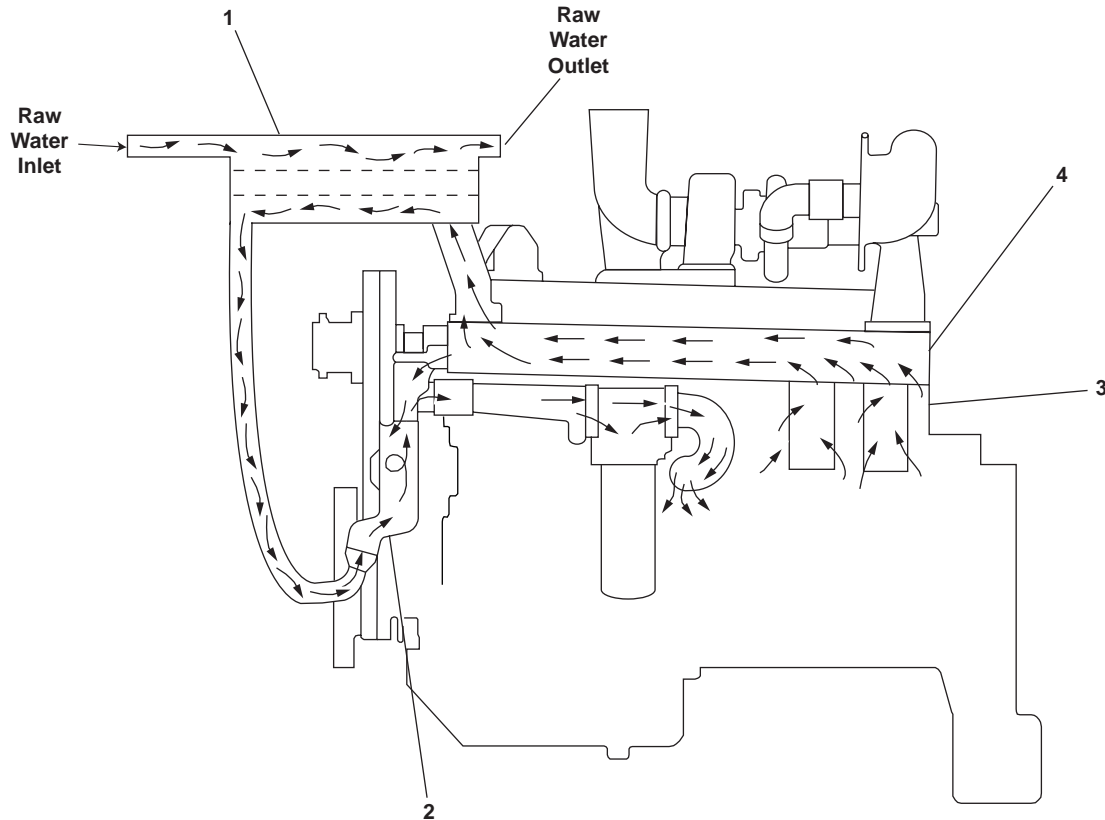

Figure 3. Typical Heat Exchanger Engine Cooling System
The raw water pump draws raw water from the sea chest through a duplex raw water strainer. After leaving the duplex raw water strainer, the raw water is routed to the engine's cooling system. There the raw water pump circulates the raw water through the heat exchanger (figure 3, item 1) where it absorbs heat from the engine coolant.
The heat exchanger (figure 3, item 1) contains a large number of tubes. Engine coolant circulates inside the tubes while raw water circulates outside the tubes. As the engine coolant and raw water flows through the heat exchanger, the raw water absorbs the heat from the engine coolant and carries that heat away.
The coolant is circulated through the closed-loop cooling system by an engine-driven water pump (figure 3, item 2). As the coolant circulates through the engine, it absorbs heat from the engine's cylinder block (figure 3, item 3), cylinder head (figure 3, item 4), exhaust manifold surfaces, engine oil, and the marine transmission oil. After circulating through the engine, the coolant passes through the heat exchanger (figure 3, item 1). As the coolant circulates through the heat exchanger, the heat absorbed from the engine is transferred to the raw water circulating through the heat exchanger tubing. After the coolant has passed through the heat exchanger, it reenters the engine through the engine-driven water pump to begin the cooling cycle again.